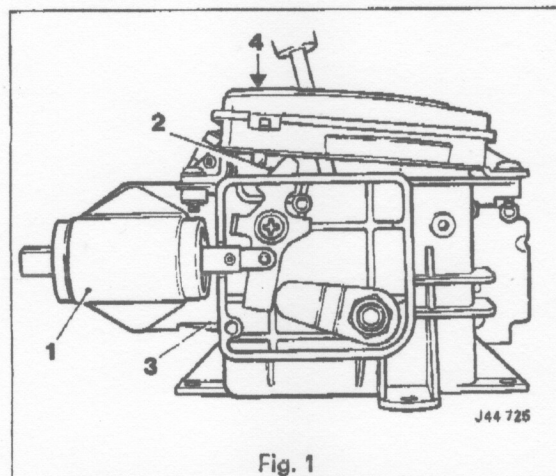

Fig. 1
- Operate the interlock solenoid override latch (2 Fig. 1) (a 'torx' type tool is necessary to remove the plug (4 Fig. 1)) to enable the gearshift to be moved from the 'P' –park position to the 'D' – drive position.